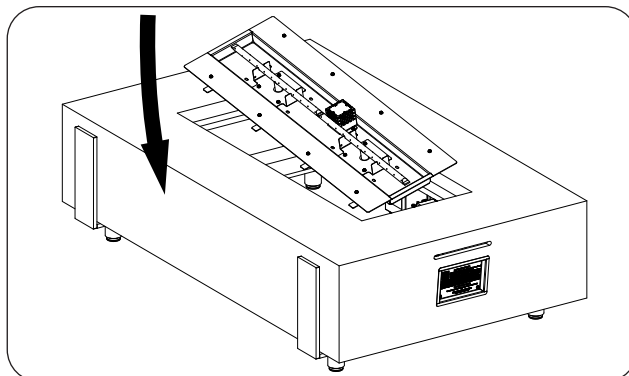

Fig. 30-2 Lower burner into unit
3. Carefully lower the burner down into the pit housing (see Fig. 30-2).